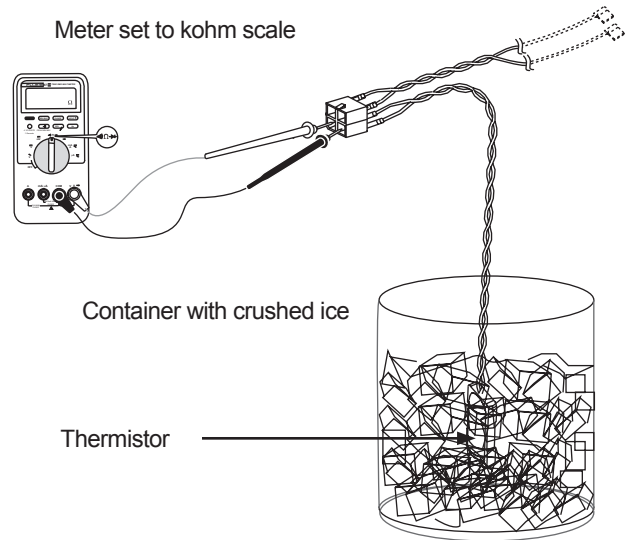

Figure 3-10. —Checking thermistor resistance.
4. Put the thermistor in small container filled with crushed ice. See Figure 3-10.